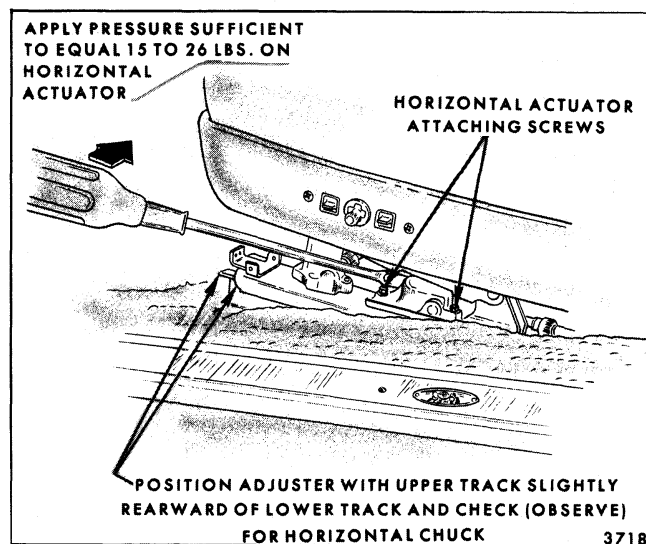

Fig. 9-4-Horizontal Actuator Adjustment - Power Six-Way and Four-Way Seat
2. Loosen horizontal actuator attaching screws (see Fig. 9-4). Using a large screwdriver, inserted as shown in Figure 9-4, apply outward pressure on horizontal actuator (sufficient to equal 15 to